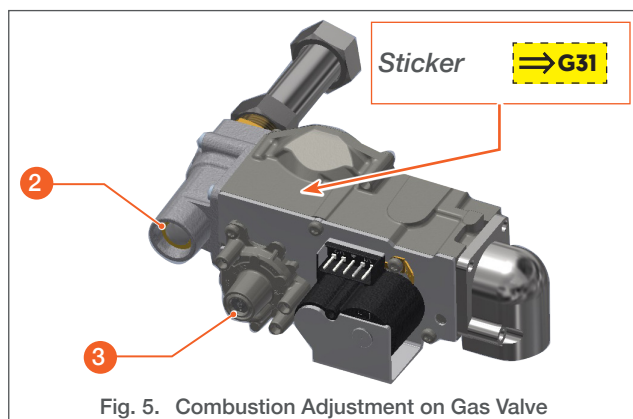

Fig. 5. Combustion Adjustment on Gas Valve
- On the gas valve (Fig. 5), place the yellow sticker indicating that a gas conversion has been carried out.